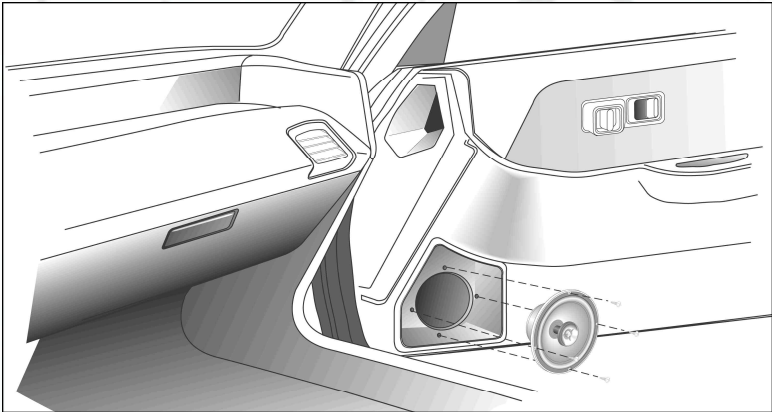
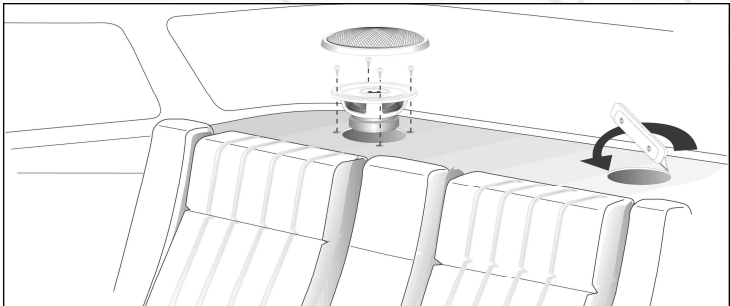

Figure 1 - Factory "Drop In" location in door.
Figure 2 - Creating new speaker location in rear deck.
- 1.Many vehicles already have factory locations (Figure 1.) to house the "DROP IN" feature of the Octane-R Coaxial line. If no existing locations are available or are not used (Figure 2.),check the desired location for adequate cutout area and any depth obstructions. Make sure to allow sufficient clearance for window tracks, structural braces, trunk lid springs, etc.